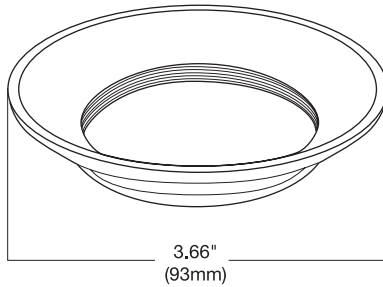

Fig.2
- 3) Connect one end of the waterproof cable to the back of the controller and hand tighten the cable. Now use the threaded mounting flange to secure the controller in place (fig 2). The mounting flange can be used in either direction depending on the thickness of the mounting surface you're installing it in. Tighten the flange by hand until the controller is secure. If you desire you can use silicone sealant from underneath the controller to make sure it is sealed and secured.